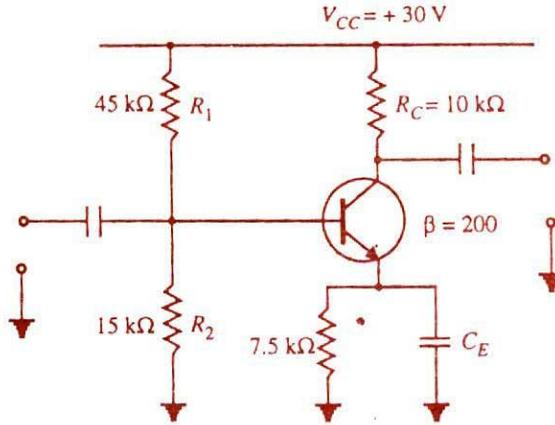

Fig. 12.27
**Example 12.14.** Determine the input impedance of the amplifier circuit shown in Fig. 12.27: